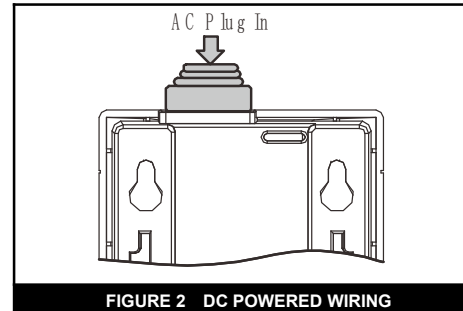

FIGURE 2 DC POWERED WIRING
1. The AC power supply module has a wire with plug. Not need to using terminal wires for power supply. Please see figure 2.